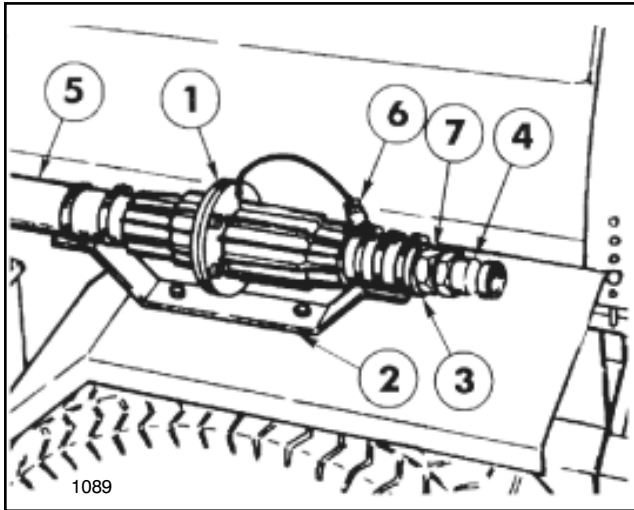

FIG. 9
1. Attach the 1-1/4" x 3" Adaptor Hose to the barb on the outlet end of the Flow Meter. **Note flow direction arrow on flow meter.** Secure with hose clamp. See FIG. 9.
4. Secure the Flow Meter to the Mounting Bracket with two (2) hose clamps furnished.
5. Connect the 1-1/4" x 18" Supply Hose between the barb on the inlet end of the Flow Meter and the hose barb in the tee at the Pump. Secure with two (2) hose clamps.
6. Position the completed Flow Meter Assembly on the Mounting Bracket as shown in FIG. 9.